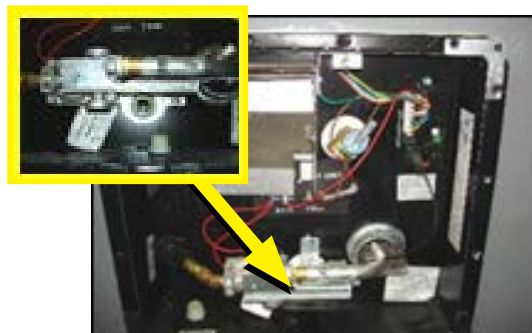

Fig 1: Water Heater Drain Plug
4. If your motor home has a standard storage type water heater you must remove the drain plug to drain the water heater (Fig 1).
3. Remove the drain plug from the tank (storage) water heater located outside the RV (**Fig 1**). **DO NOT REMOVE THE DRAIN PLUG IF THE WATER HEATER IS HOT OR UNDER PRESSURE. RELEASE PRESSURE AND LET IT COOL.**